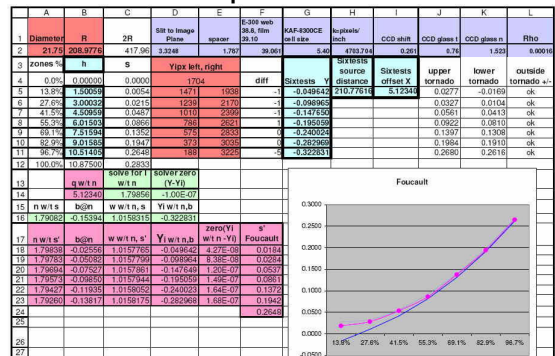

Fig. 8. SIT Spreadsheet.
- Y_{diff} is the pixel distance between slit pairs i.e., Y_{pix} right D5:D11 - Y_{pix} left E5:E11 – Fig. 8.
Given the Y_i 's (G5:G10), the spreadsheet Solver tool is used to work the equation $Y_i = w(Y_n - h) + h$, backwards to obtaining the s' (F18:F23) – Fig. 8 and 11.